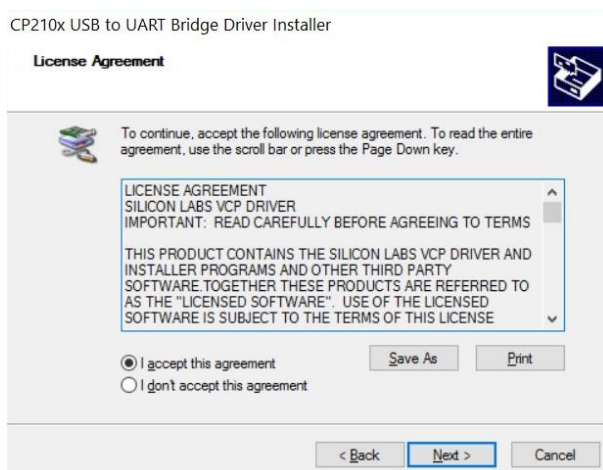

Figure 25 — Acceptance of the License agreement
- 3) After accepting User License Agreement (see figure 25) the installation process will be continued. During installation, please follow the instructions of Bridge Driver Installer.